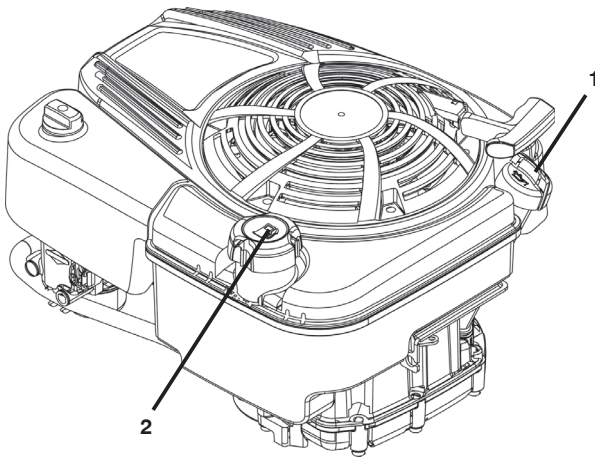

Figure 14
2. Remove dipstick from oil fill spout (Figure 14).
IMPORTANT: Fill fuel tank to bottom of tank filler neck. Do not overfill. Use fresh, clean, regular unleaded gasoline with a minimum of 87 octane. Do not mix oil with gasoline. Purchase fuel in quantities that can be used within 30 days to assure fuel freshness (Figure 14).